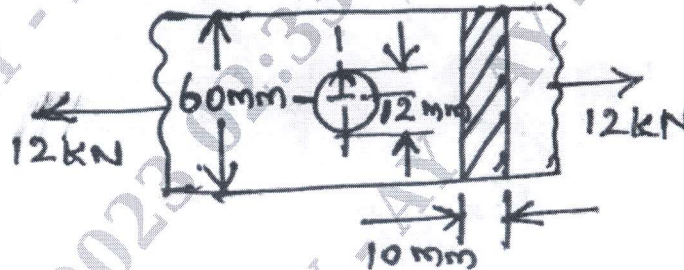

Fig. Q3 (b)
b. Find the maximum stress induced in the following case taking stress concentration into account. A rectangular plate 60 mm × 10 mm with a hole 12 mm diameter shown in Fig. Q3 (b) and subjected to a tensile load of 12 kN. (10 Marks)